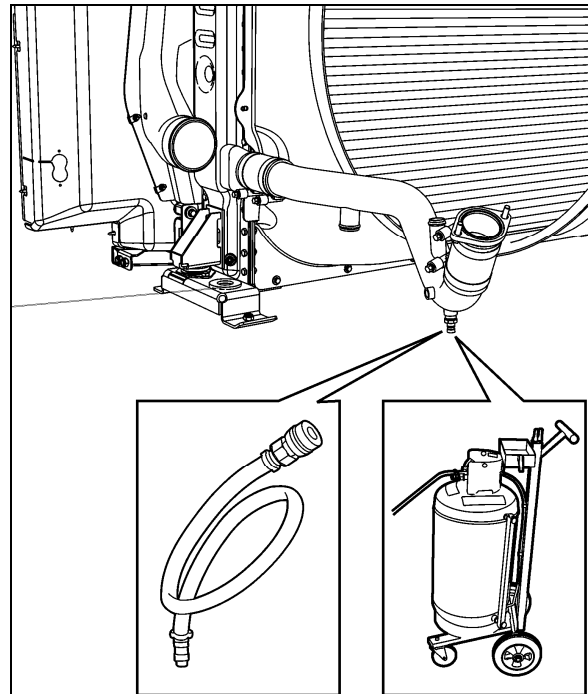

FIGURE 7: EXTRACTING COOLANT 05093
5. Connect coolant extractor (Fig. 7). Use coolant extractor to drain the coolant from the engine. An alternate method is to drain the coolant into a suitable container using the drain hose.